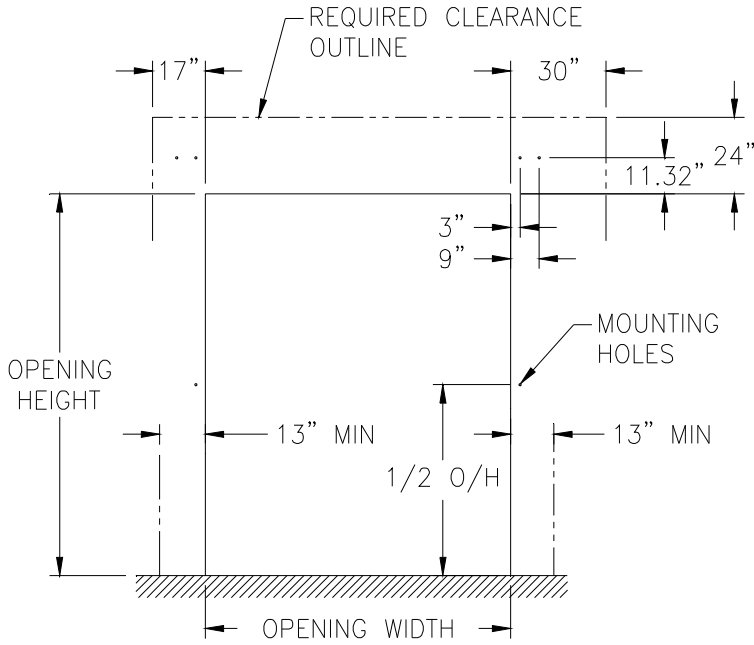

FIG. 4A
- Motor mounted on Side shown in Figures 4a and 4b.